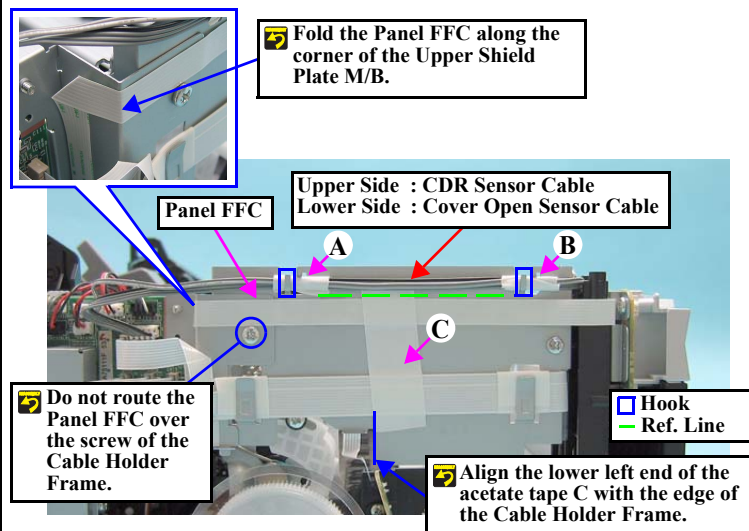

Figure 4-25. Routing the Cables
- When routing the FFCs and cables, follow the procedures below referring to Fig.4-25.